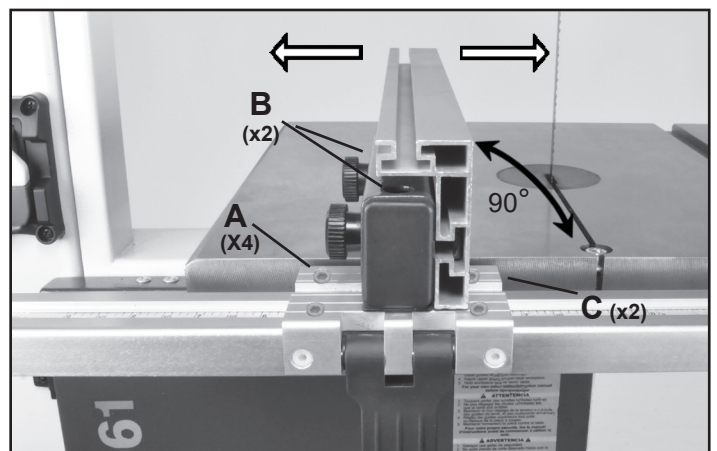

FIGURE 16
2. With the 4mm hex wrench, adjust the two Hex Screws (#103A, Fig. 16, C) in the rear edge of the Fence Carrier. Turn both the screws clockwise to increase clamping pressure, counterclockwise to decrease clamping pressure. Note that these adjustments may also change the angle of the fence to the blade and miter gauge slot in the table top.
Aligning the Fence to the blade and miter gauge slot can also be done with the two Screws (#108, Fig. 16, B) that attach the Fence Carrier Block (#107) to the Fence Carrier (#100A). Use a 5mm hex wrench to adjust these screws.
The Fence (#106) can be adjusted 90° to the table by turning the four plastic set screws (#160) until the desired setting is reached (Fig. 16, A).